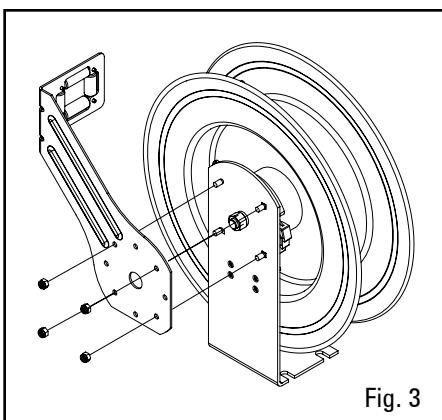

Fig. 3
5. Remove 4 nuts holding guide arm on base (fig. 3).